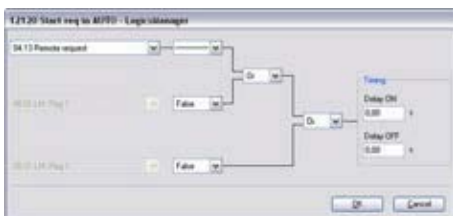

Fig. 177: LogicsManager function "Start req in AUTO"
3. ➤ Configure the LogicsManager function "Start req in AUTO" as shown in (Fig. 177).